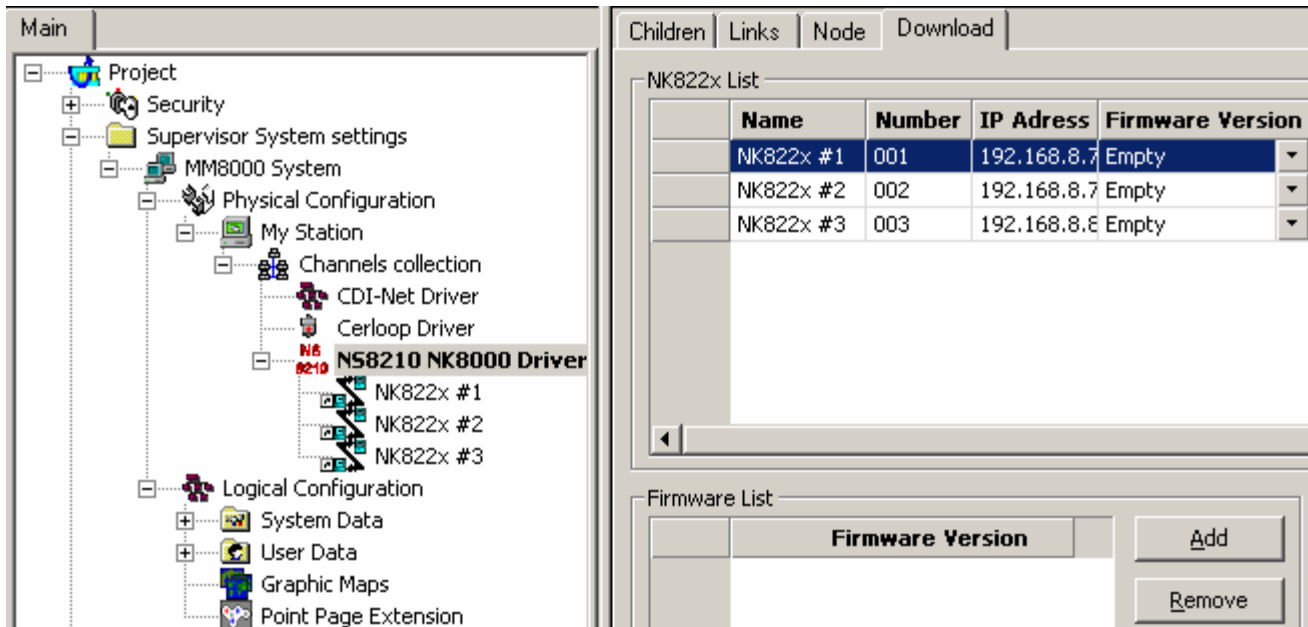

Fig. 7 'Download' tab
4. Select the 'NS8210 driver' node and then the 'Download' tab (Fig. 7).